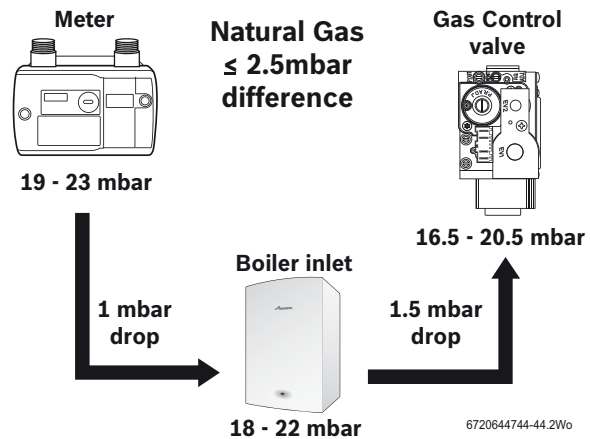
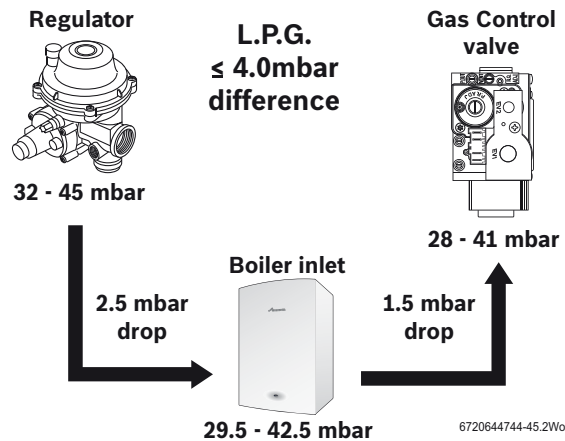

Fig. 56 Natural gas pressures
Fig. 57 L.P.G. pressures
- ▶ Slacken the screw in the inlet pressure test point (1) and connect a manometer.
- ▶ Check the gas supply working pressure at the gas valve conforms to values shown in Fig. 56 or Fig. 57.